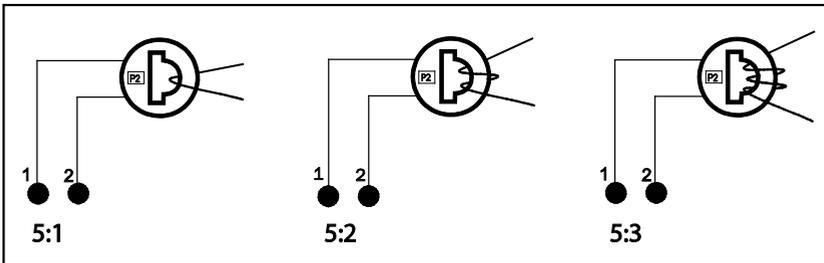

Fig. 5 Example 1, 2 and 3 windings.
Fig. 5 shows the different types of current transformer (CT) windings. In Fig.5:1 the motor wire is just drawn through the CT, in the text and tables below this is described as 1 (one) winding. Fig. 5:2 shows a CT with 2 windings and Fig. 5:3, 3 windings. In other words the number windings is equal to the number of times the motor wire “L1” is drawn through the hole of the current transformer.